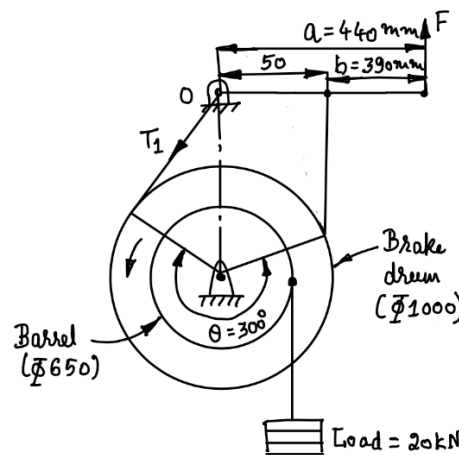

Figure 3b
- b) A band brake of a crane is actuated by a lever, the free end of which is pulled in the upward direction in order to apply the braking action. The lever length is 440 mm. The tight end of the band is attached to the fulcrum and the slack end to a pin, 50 mm from the fulcrum as shown in the Figure 3b below. The diameter of the brake drum is 1000 mm and that of the barrel is 650 mm. Determine the actuating force at the end of the brake lever in order to withstand a load of 20 kN. Assume coefficient of friction as 0.35 with angle of lap as 300° . **12**